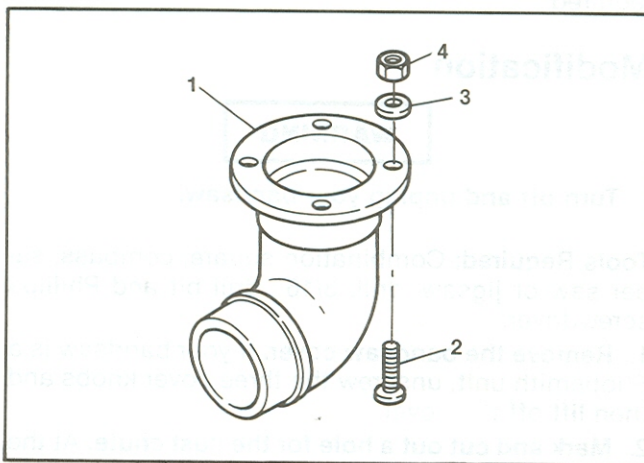

Figure 3. Bandsaw Dust Chute.
1. Securely attach the dust chute to the bandsaw cover with the four screws (2), washers (3) and nuts (4). (See Figure 3.)